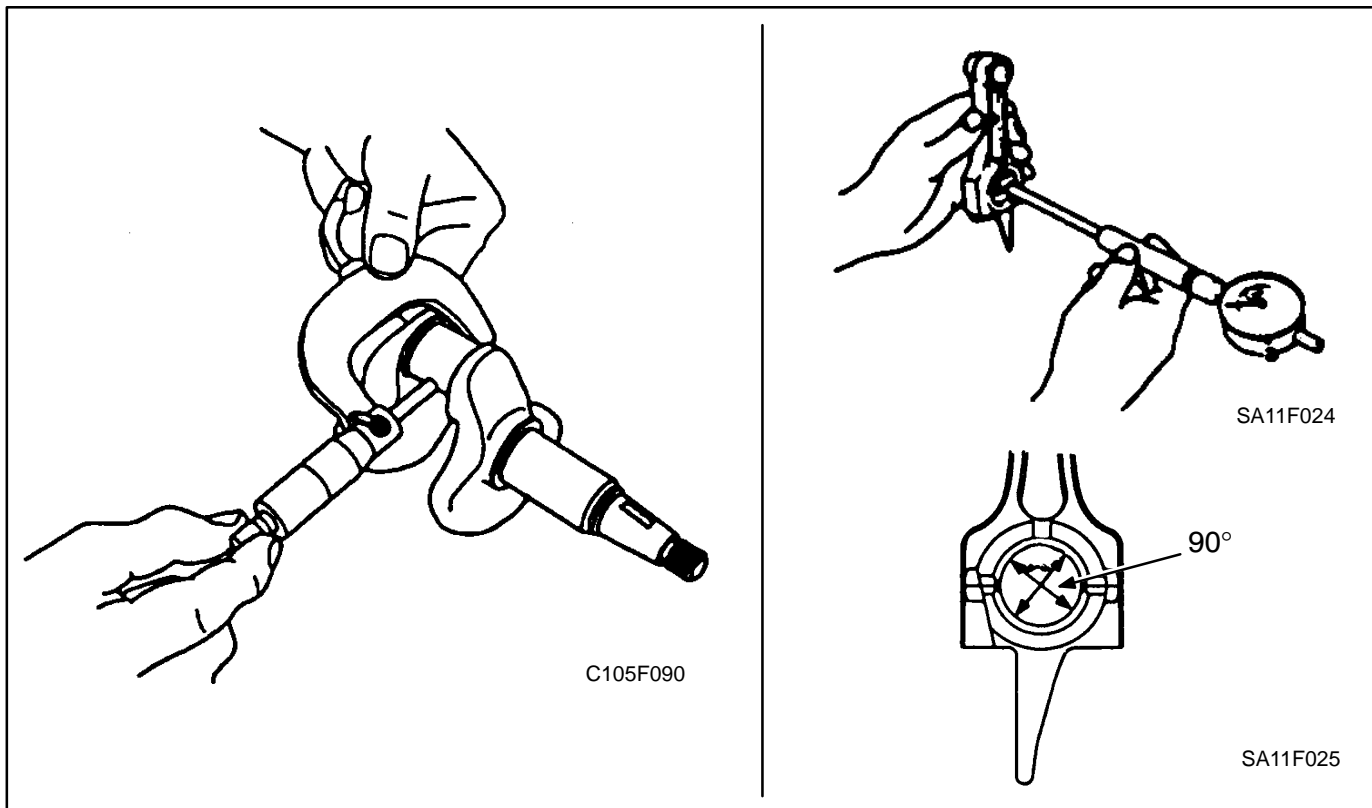

FIGURE 9-22. CRANK PIN AND CONNECTING ROD CLEARANCE
1. Measure the crank pin O. D. and the connecting rod big end bore with a micrometer, and calculate the difference (Figure 9-22).